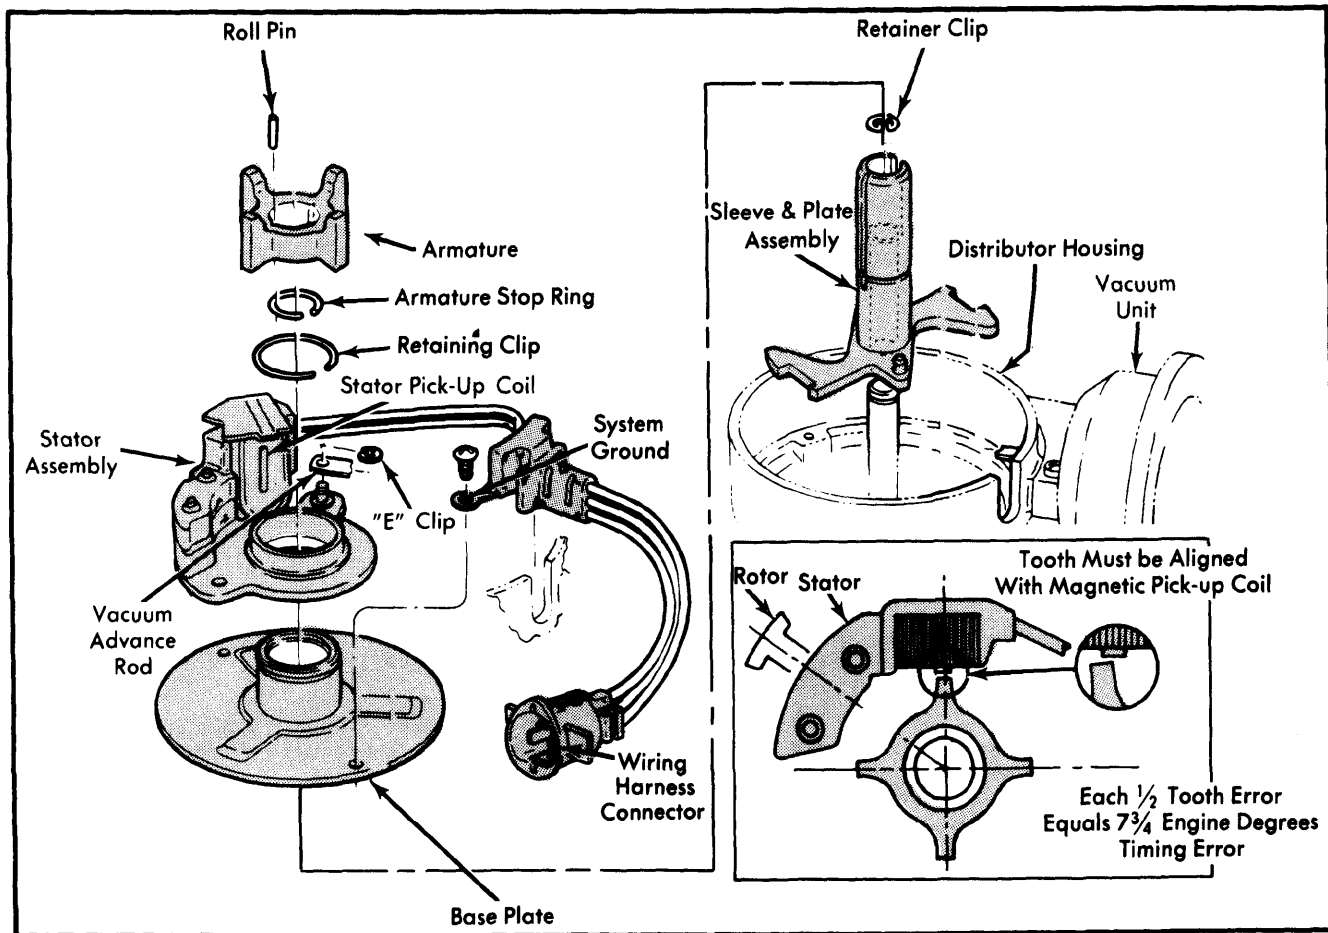

Fig. 3 Components of Dura-Spark II Distributor
**Distributor** – A 4-tooth armature (reluctor) and a stator (pick-up coil) combine to signal the control module when to turn the ignition coil off and on. See Fig. 3. The distributor has both centrifugal and vacuum advance mechanisms for altering spark timing.